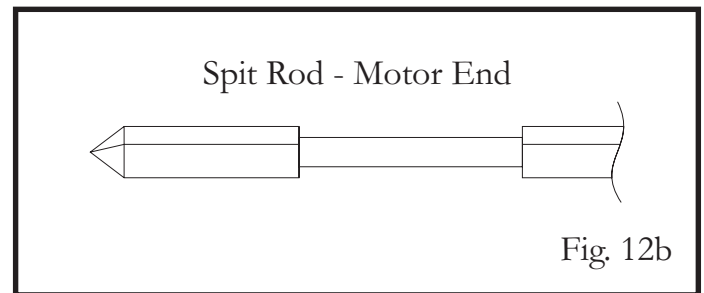

Fig. 12b
7. Insert the Spit Rod into the Rotisserie Motor (see Fig. 12b).